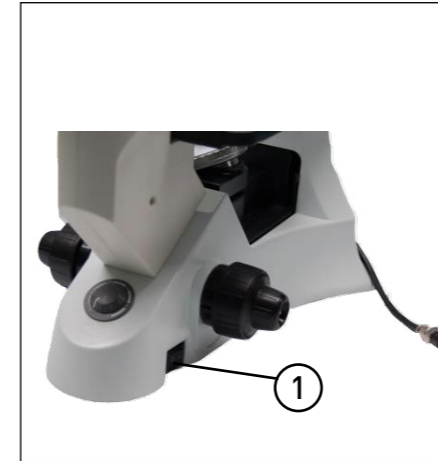

FIGURE 16
4.1.1 Turning on the lamp (Fig. 16)